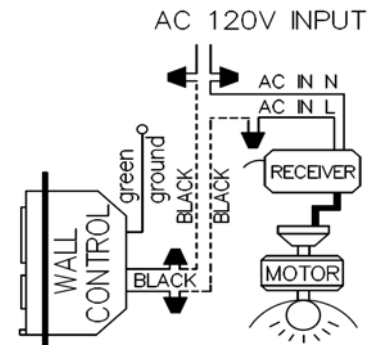

FIG. 2
1.Remove wall plate, disconnect and remove the toggle switch from wall junction box. Using the wire nuts provided, make the electrical connections to the new Transmitter unit as shown in figure 2.